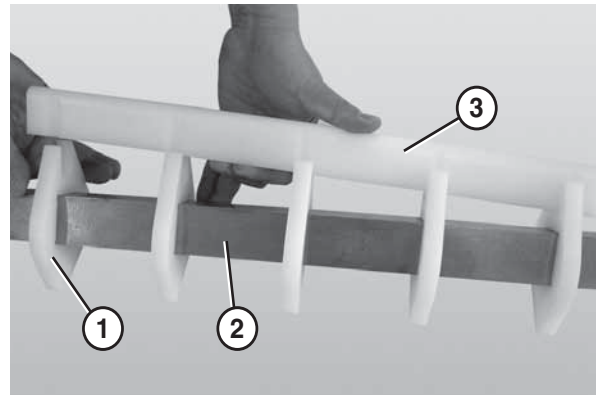

Figure 82
1. Slide the nose bar pucks (**Figure 82, item 1**) onto the nose bar drive post (**Figure 82, item 2**).
2. Attach the nose bar wear strip (**Figure 82, item 3**).